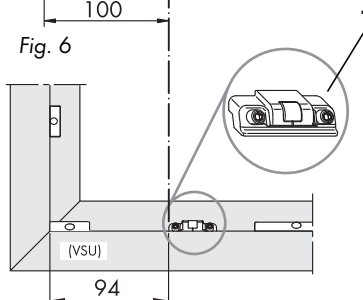

Fig. 7
Position sash lift (1) on bottom locking side as shown (Fig. 7) and fix with grub screws (torque 1.5 ± 0.25 Nm, 2.5 mm AF).